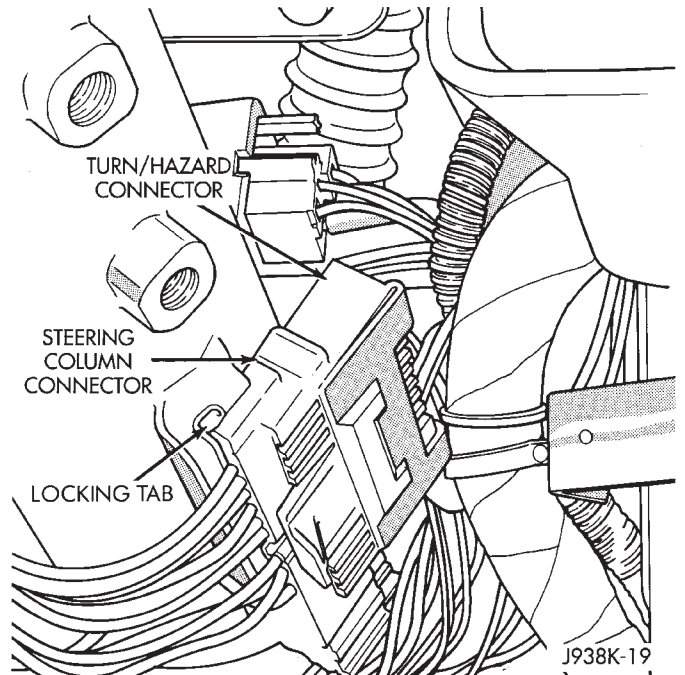

Fig. 13 Turn/Hazard Switch and Steering Column Connectors
- (22) Loosen column brace mounting nut at drivers side kick panel. This will allow column to drop.
- (23) Push turn/hazard connector up and out of steering column connector (Fig. 13).